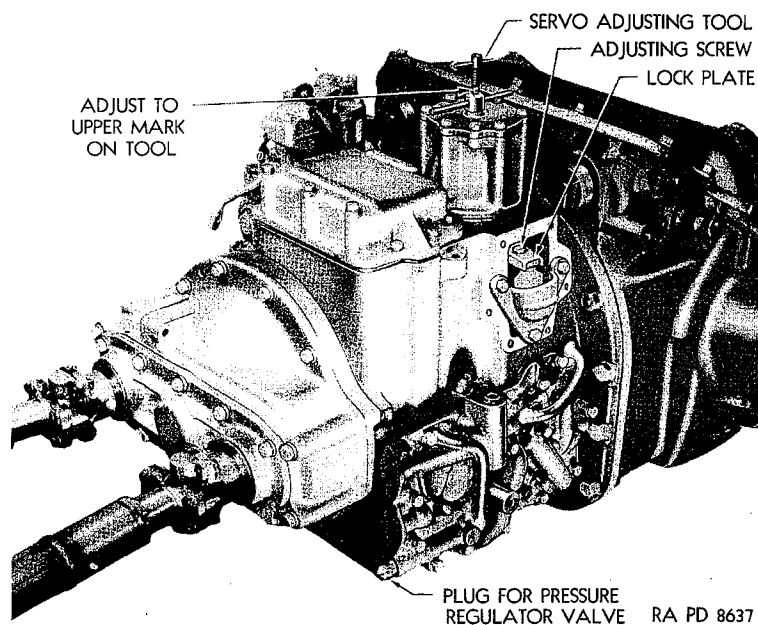

Figure 55—Transfer Unit Low Gear Band Adjustment
- (1) Remove cover on right side of transfer case.
- (2) Swing back lock plate that holds adjusting screw, and back off adjusting screw two or three complete turns.
- (3) Remove plug from top of low speed servo cover (Fig. 55), and screw in servo adjuster, Tool No. B-226839, until it bottoms in tapped hole in upper end of piston shaft.
- (4) Adjust T-handle pressure nut on tool to bring "Lo" notch (upper notch) on screw flush with top of pressure nut.
- (5) If band is properly adjusted, there will be .002" to .005" clearance between pressure nut and servo cover, as measured with a feeler gauge.
- (6) If pressure nut is tight against cover, band is too loose. Turn pressure nut down on screw until servo spring pressure is released, freeing band. Then loosen band adjusting screw
(1) The pressure regulator valve is located slightly below normal oil level, therefore, before attempting to replace valve, a receptacle should be placed to catch the oil that drains out.
(2) Unscrew plug located in lower corner of pump and governor housing (Fig. 55).
(3) Remove spring.
(4) If valve is not forced out by oil pressure, reach into opening with a piece of bent wire and pull out valve.
(5) Install valve by reversing these operations.